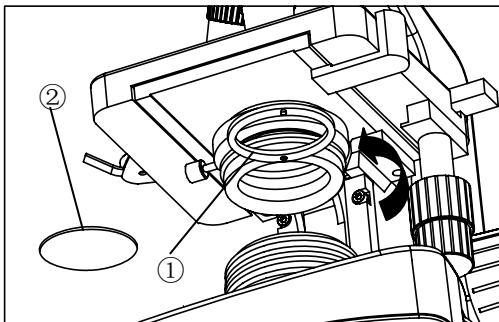

Fig.7
### 2.2.4 Installing the color filters (Fig.7)
1. Turn the condenser bracket① out at the direction of arrow in Fig.7
2. Put the required filters② into the holder on the bracket, and then turn the bracket back to the right position.